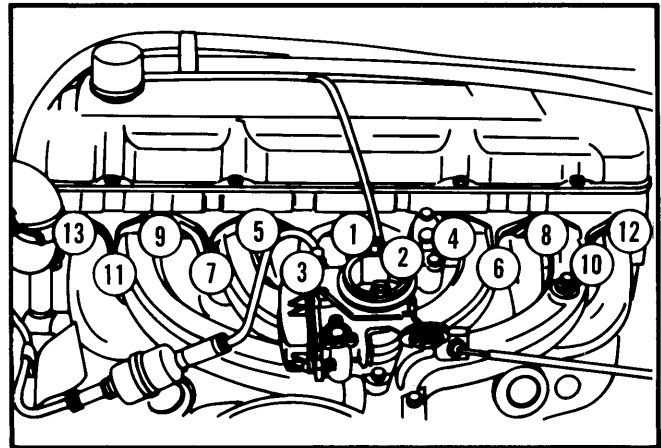

Fig. 1 Manifold Assembly Tightening Sequence
4) Install nuts with flat side away from washers, snug all nuts, but do not over-tighten. After tightening 3 intake-to-exhaust manifold screws, tighten manifold nuts in sequence shown in Fig. 1. Reinstall carburetor, hoses, wires, cables, linkage, air cleaner, and exhaust pipe.